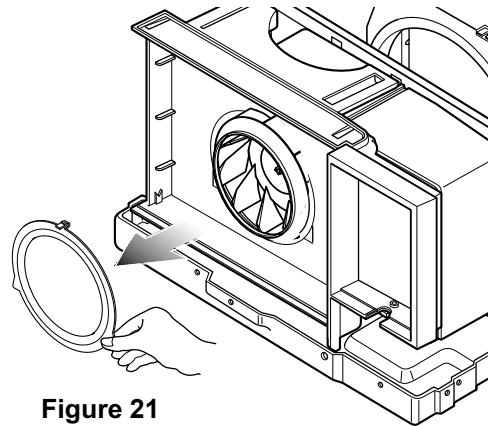

Figure 21
9. Pull out the hook of orifice by pushing the tabs and remove it. (See Figure 21)